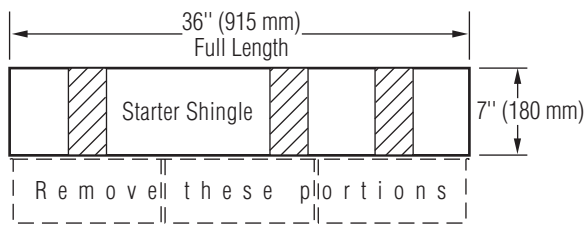

Figure 13-8: Make starter shingles by removing the lower 5" tabs.
**STARTER COURSE:** Use CertainTeed Swiftstart or Universal Starter™ or a starter course consisting of the shingles from which the 5" tabs have been removed (Figure 13-8).